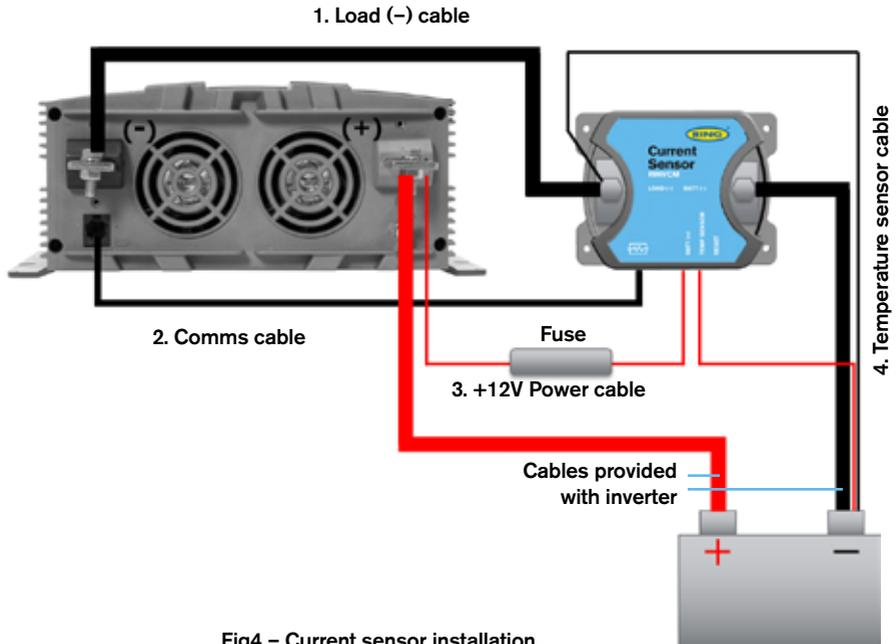

Fig4 - Current sensor installation
To enable monitoring of the input current and hours remaining function, the optional current sensor (RINVCM) should be fitted as shown in Fig4
3. Now connect cables 1-4 (supplied with current sensor) as shown in Fig4